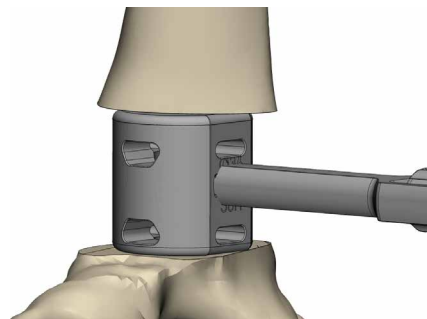

Fig. 5.2
- 5.2** If reaming was performed for a Half Pill implant, the trial footprint should match the reamed anatomy. The trial footprint should provide adequate bone coverage between the trial and anatomy, maximizing cortical bone contact where applicable, without extending beyond the bone margins to avoid interaction with the adjacent soft tissues. (fig. 5.2). The trial height should provide bone contact both proximally and distally to ensure adequate apposition of the Ossera™ AFX to bone. With the trial in place, approximate soft tissue closure to ensure the implant will not require excessive tension on the soft tissue envelope.